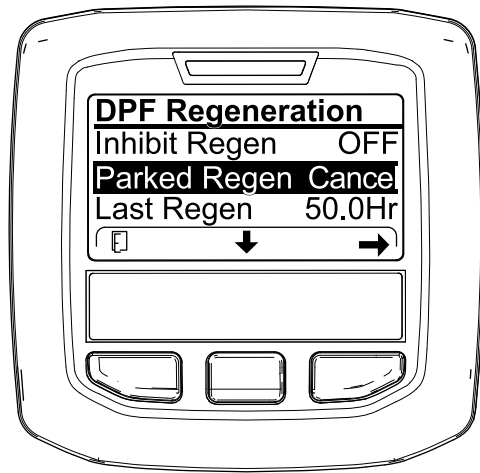
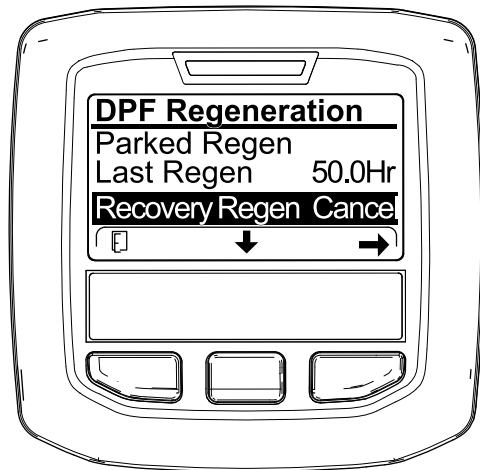

Figure 64
Figure 65
1. Access the DPF Regeneration menu (Figure 64).
2. Press the center button to scroll down to the PARKED REGEN CANCEL (Figure 64) or the RECOVERY REGEN CANCEL option (Figure 65).
3. Press the right button to select the Regen Cancel entry (Figure 64 or Figure 65).